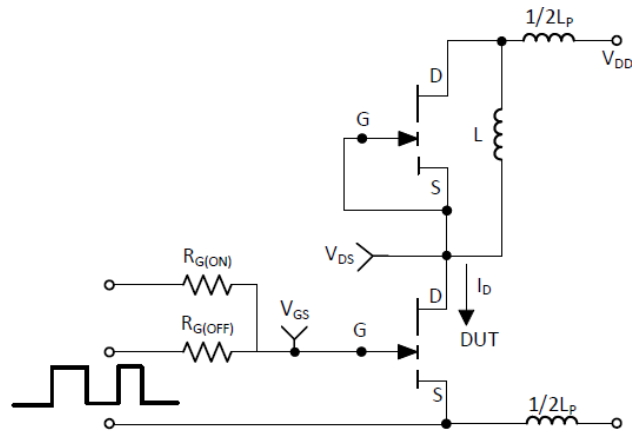

Figure 16: Switching Test Circuit
(7) See Figure 16 for switching test circuit diagram.